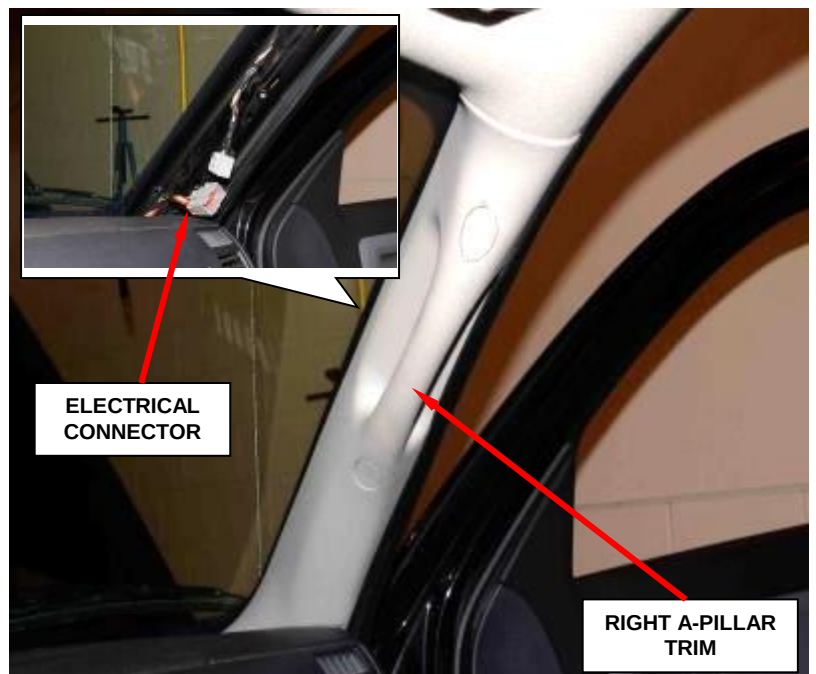

Figure 139 – A-Pillar Trim (Right Side Shown)
19. Loosen the screws and disconnect the electrical connectors (Figure 139).